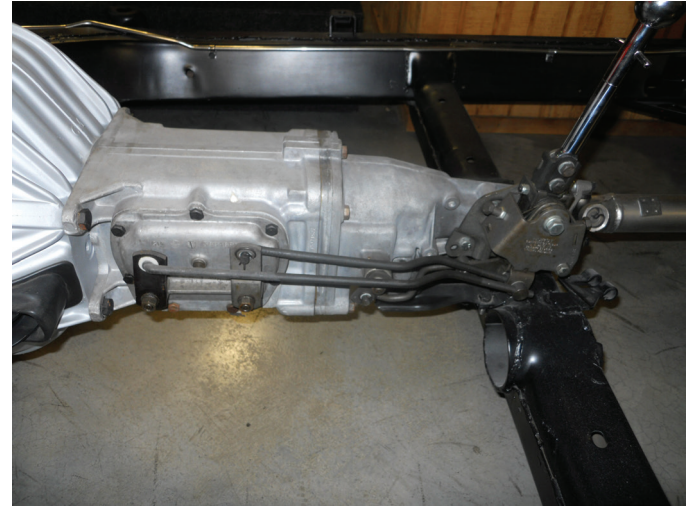

FIGURE 1-17 A Muncie four-speed manual transmission on a restored muscle car is an example of a close-ratio manual transmission.
- A close-ratio Muncie four-speed has ratios spaced fairly close together (25% or less), closer than the wide-ratio version. ● SEE FIGURE 1-17.